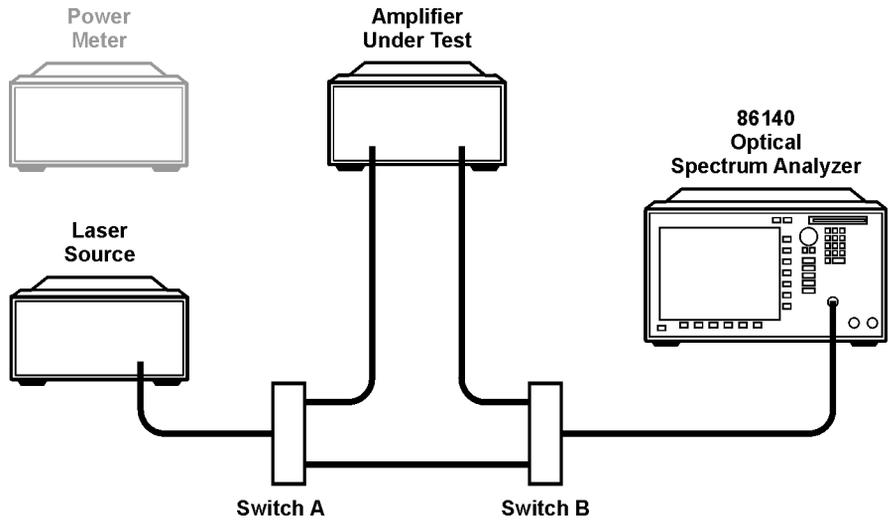

Figure 1-7. Amplifier Measurement
- 13 After measuring and verifying the path offsets, you can connect the amplifier under test as in as in Figure 1-7.